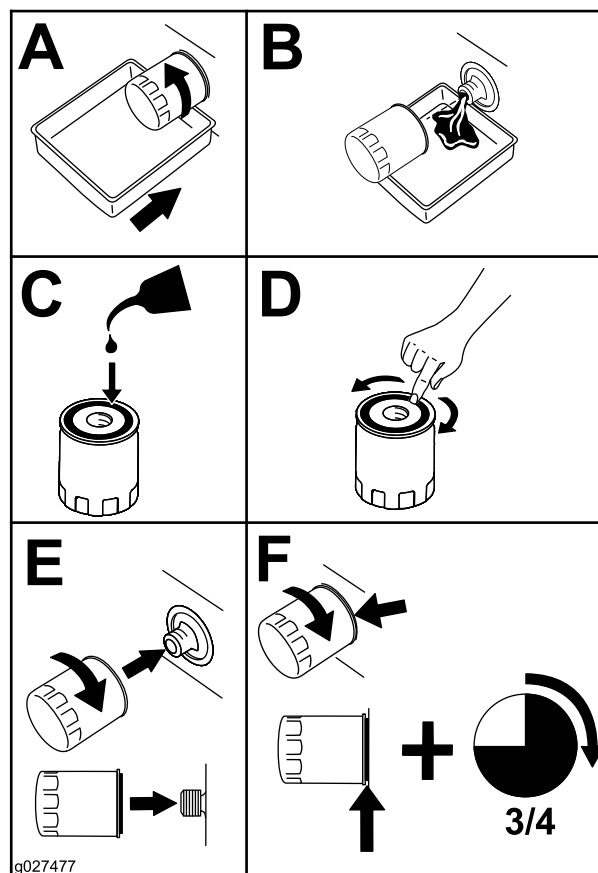

Figure 69
2. Change the engine-oil filter (Figure 69).